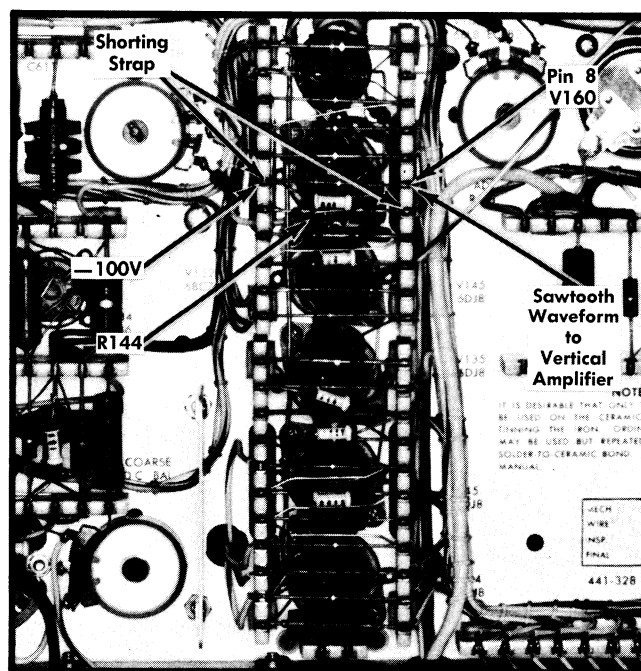

Fig. 6-3. Connections for obtaining a vertical trace on the Type RM503 Oscilloscope.
15. HIGH-FREQUENCY COMPENSATION. To adjust the high-frequency compensation of the horizontal attenuators, a vertical trace must be obtained by connecting the output of the Sweep Generator to the Vertical Amplifier. To do this, connect the bottom of R144 to an internal source of -100 volts and connect pin 8 of V160 to the +INPUT connector of the Vertical Amplifier. Fig. 6-3 illustrates how these connections can be made. Set the front panel controls as follows: